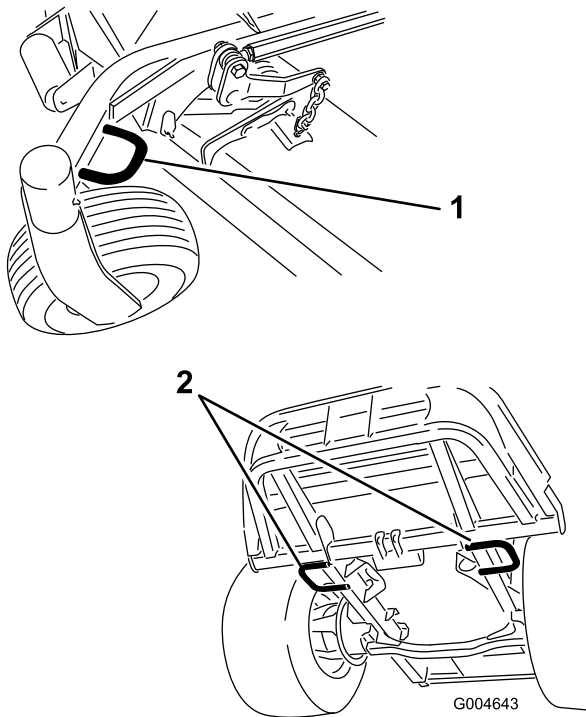

Figure 37
- Securely fasten the machine to the trailer or truck with straps, chains, cable, or ropes as required by local traffic regulations in your area (Figure 37).